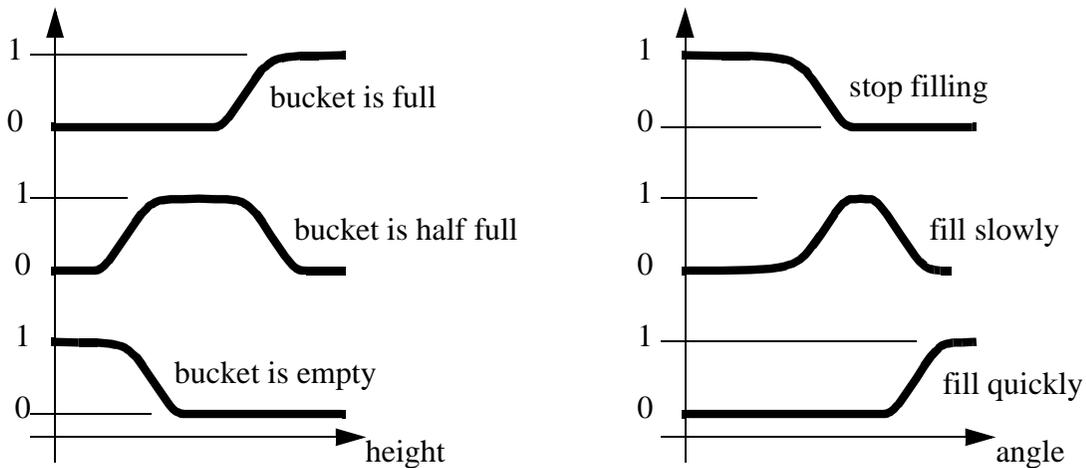

Figure 26.2 Fuzzy Sets
The outstanding question is "What does it mean when the bucket is empty, half full, or full?" And, what is meant by filling the bucket slowly or quickly. We can define sets that indicate when something is true (1), false (0), or a bit of both (0-1), as shown in Figure 26.2. Consider the *bucket is full* set. When the height is 0, the set membership is 0, so nobody would think the bucket is full. As the height increases more people think the bucket is full until they all think it is full. There is no definite line stating that the bucket is full. The other bucket states have similar functions. Notice that the *angle* function relates the valve angle to the fill rate. The sets are shifted to the right. In reality this would probably mean that the valve would have to be turned a large angle before flow begins, but after that it increases quickly.